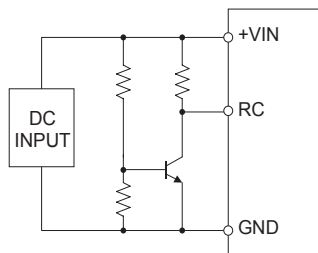

Fig.4.6 RC circuit for start up
- When start of DC INPUT is slow, BRNS may start on the outside of the operating area. By the circuit of the Fig.4.6, you can raise the start-up voltage.